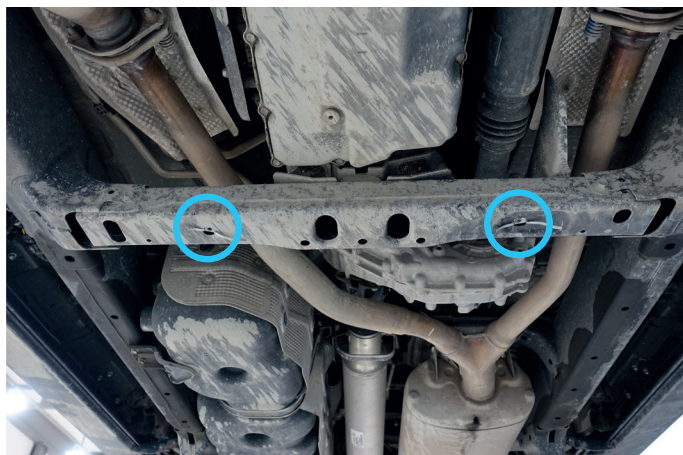

Fig. 1
1. Install insert nut M8x60 (item A), in frame rail as shown in fig.1.